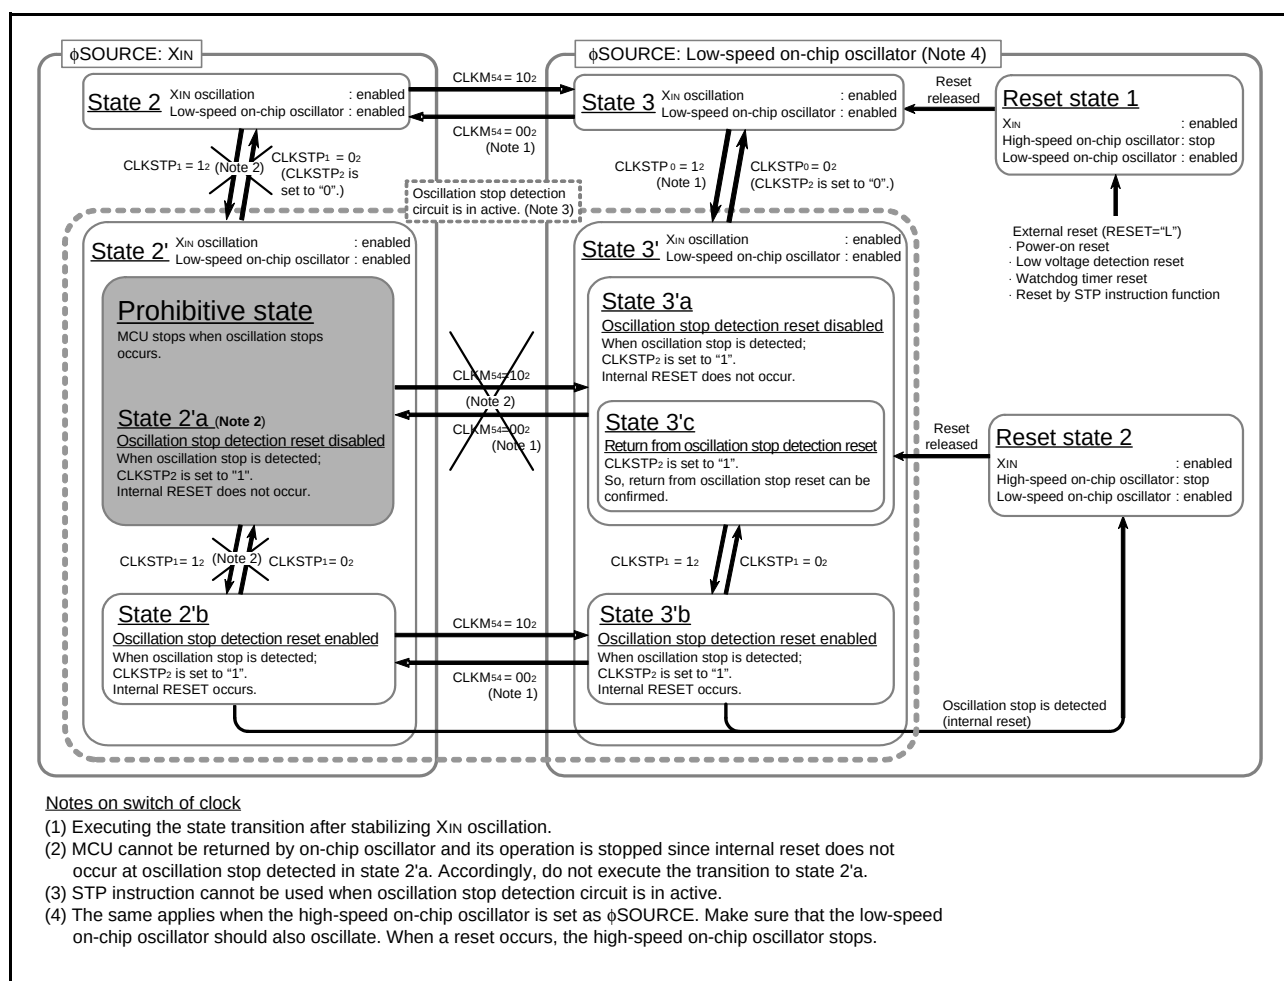

Fig 68. State transition of oscillation stop detection circuit
- (1) Do not execute the transition to “state 2’a” shown in Figure 68 State transition of oscillation stop detection circuit. In this state, no reset is triggered and the MCU is stopped even when the XIN oscillation stops.
- (2) After an oscillation stop detection reset, if this reset is enabled while bits XIN oscillation stop detection function active and oscillation stop detection status are retained, a reset is triggered again.
- (3) The oscillation stop detection status bit is initialized under the following conditions:
- (4) While the oscillation stop detection function is in active, the oscillation stop detection status bit may set to 1 when the watchdog timer underflows or by a reset when the STP instruction is executed with the STP instruction function selection bit set to 1.
- (5) The oscillation stop detection circuit is not included in the emulator MCU “M37549RLSS”.